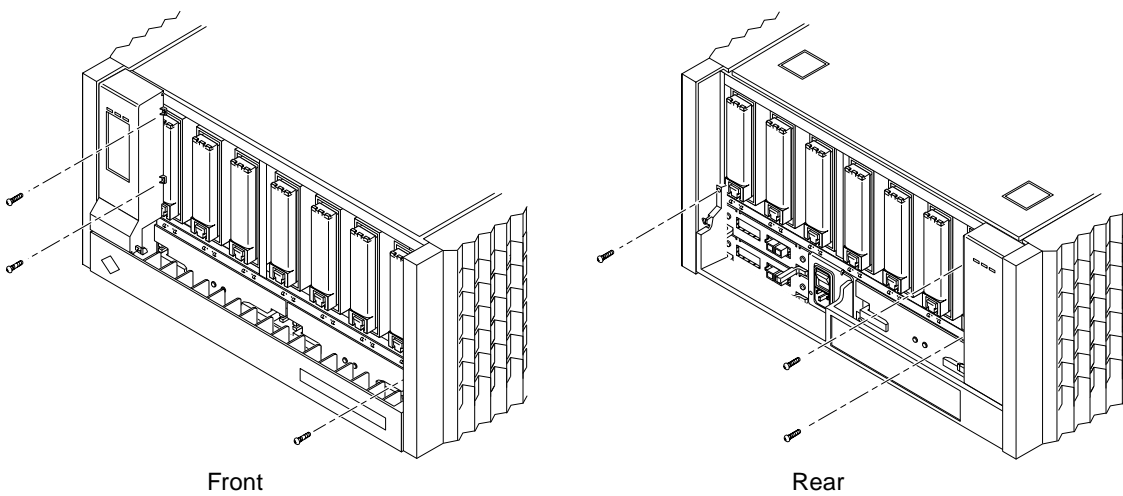

FIGURE 7-8 Removing the Screws From the Door Panel Assembly
2. Remove the three screws from the door panel assembly (FIGURE 7-8).